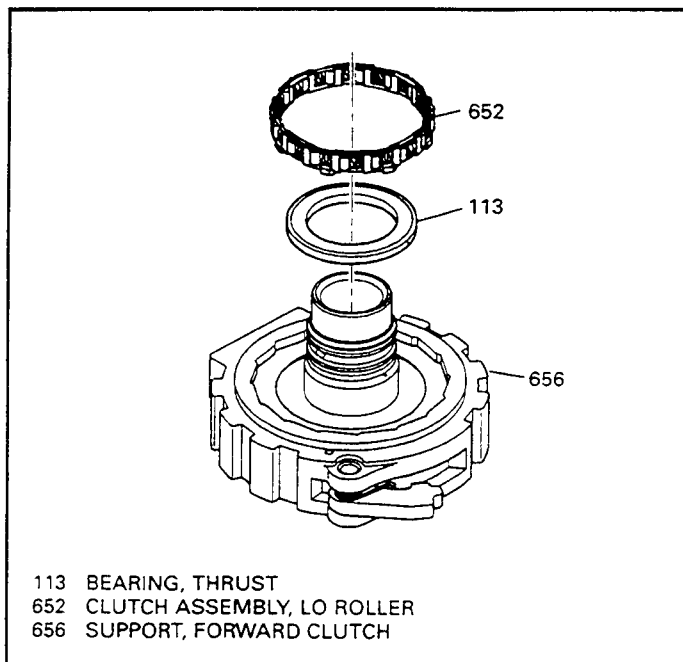

Figure 110
6. Install the Lo roller clutch assembly (652) into the forward clutch support. The larger tabs on the plastic cage must face down into forward clutch support, rotate slightly counterclockwise to lock the tabs into the grooves in the forward clutch support (See Figure 110).
7. Install the thrust bearing (113) onto the forward clutch support as shown in Figure 110.